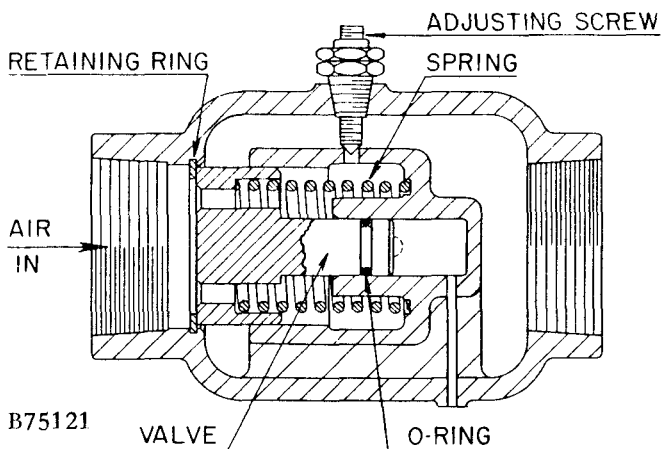

FIGURE 5-4. – MINIMUM DISCHARGE PRESSURE VALVE
**MINIMUM DISCHARGE PRESSURE VALVE** (Figure 5-4) – An internal spring-loaded minimum pressure valve is used in the final discharge line to provide a positive pressure on the oil system of the compressor even when the air service valve is fully open.